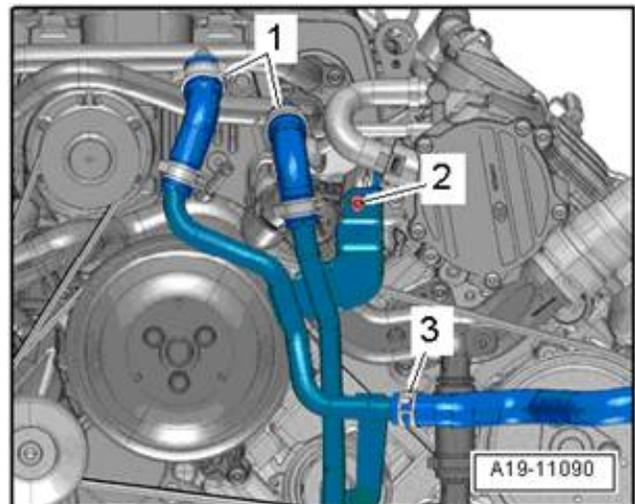

Figure 8. Front coolant pipes to be removed for 3.0T
5. For 3.0T only: remove the coolant supply lines (intercooler of supercharger) in the front of the engine (Figure 8).